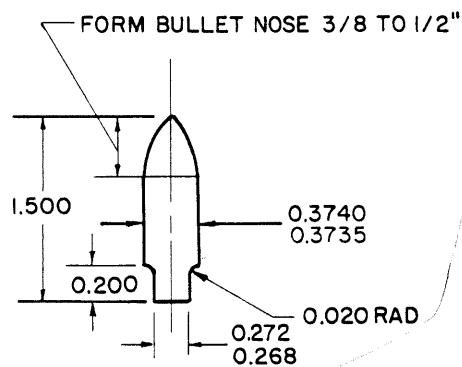

Figure 8. 2550978 Bullet Nose (Locally Manufactured or Purchased from Bendix)
- b. Lubricate surfaces of 2550978 bullet nose tool. (Reference figure 8). Use rubber lubricant.
- (3) Continue with assembly of mixture control shaft assembly as follows: